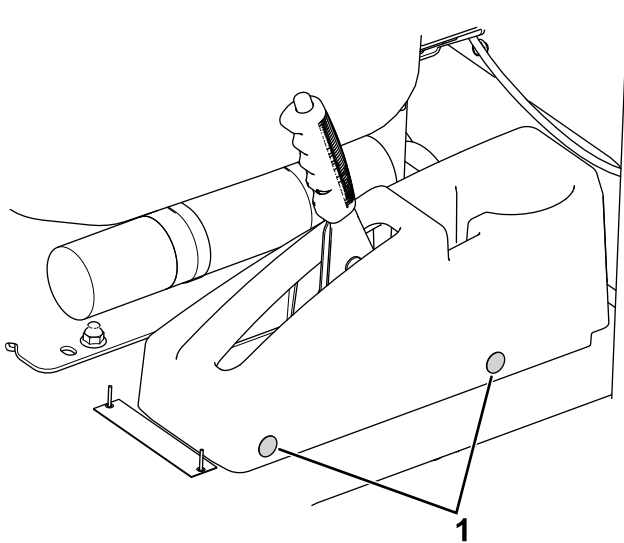

Figure 13
1. Remove the push-in fasteners that secure the brake cover to the floor (Figure 13).
9. Install the brake cover with the 2 previously removed push-in fasteners (Figure 13).